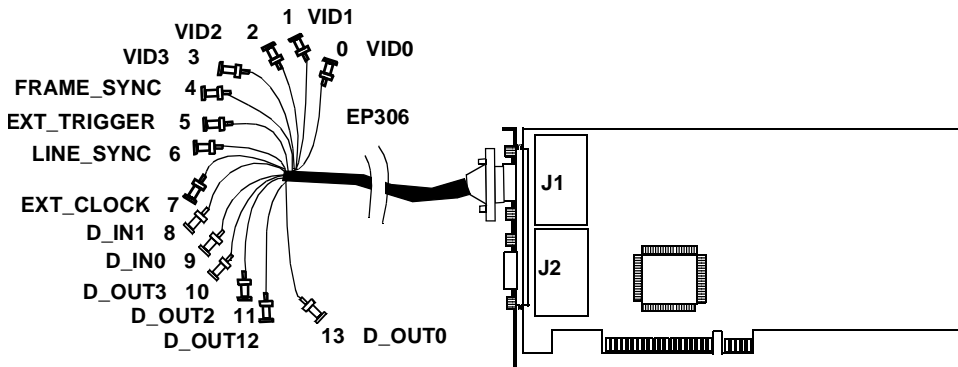

Figure 4: Connecting the EP306 Cable Assembly to Connector J1
1. After making sure power to the computer is off, push the 15-pin connector of the EP306 cable into the J1 socket at the rear of the DT3152-LS board, as shown in Figure 4, and tighten the screws on the connector.